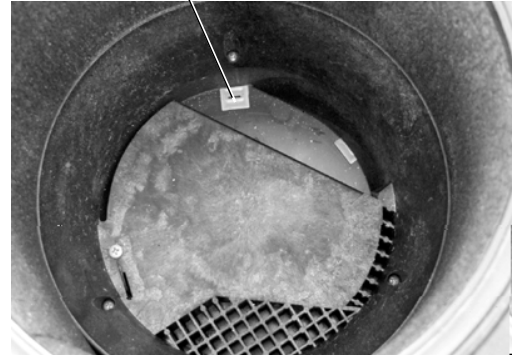

Figure 14
- E. Remove appropriate number plugs determined in steps C, D, and E. Remove alternate plugs with the plug key provided (Figure 14). Do not use a screwdriver. Pellet plate can be rotated counterclockwise by hand to expose pellet plugs.